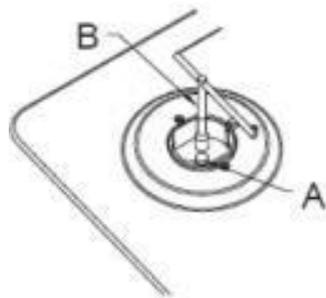

Abb. 6
- The appliance's gas inlet fitting the $\frac{1}{2}$ " male threaded conic gas type in accordance with the ISO 7-1 standards. Make the connection using rigid pipe. When making the gas connection, it is important to place the gasket (A) in between the inlet pipe (C) and the elbow (B), to ensure a gas tight seal.
- Replace the injectors with the corresponding injector from the table on page below (see Fig. 6). First, remove the burner caps and rings with a socket spanner "B", unscrew injector "A" (see Fig. 6).